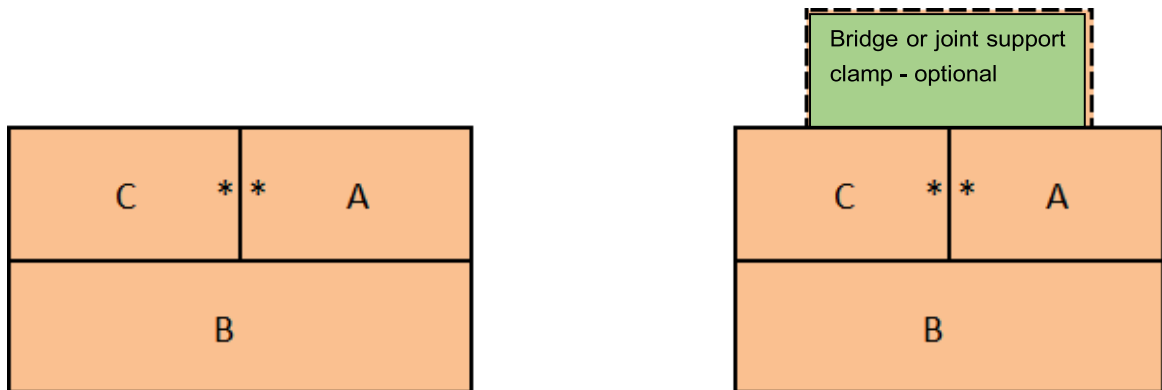

Figure 3: Structure of the assembled board
4. Connect Parts A and C, and ensure that the tongue and groove are correctly put together. Connect Part B (groove side) with the joined Parts C & A (tongue side), in order to obtain an inverted T joint – see Figure 3. Note: Check the connection to ensure that there are no visible gaps between the panels. The assembly, the test, the visual check and evaluation must take place in a well-lit area. The test samples must be placed on a stable, flat workbench or on a solid table, offering good inspection at normal workbench or table height.